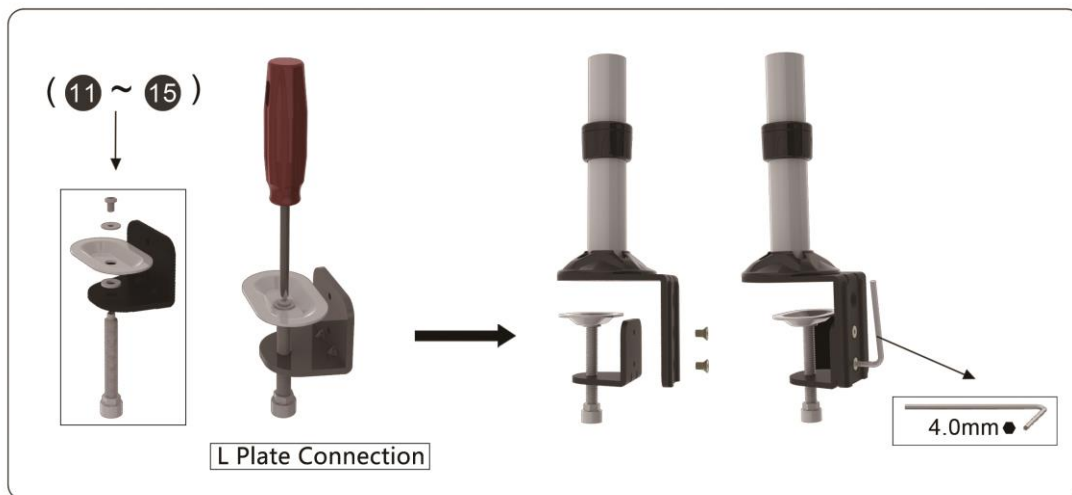

Figure 1-4
4. Combine the components of the pressure plate (items 11-15, see page 5). Using a Phillips screw driver, attach the pressure plate to the smaller L plate. Then proceed to attach the smaller L plate to the larger L plate using the provided 4mm Allen wrench (See Figure 1-4).